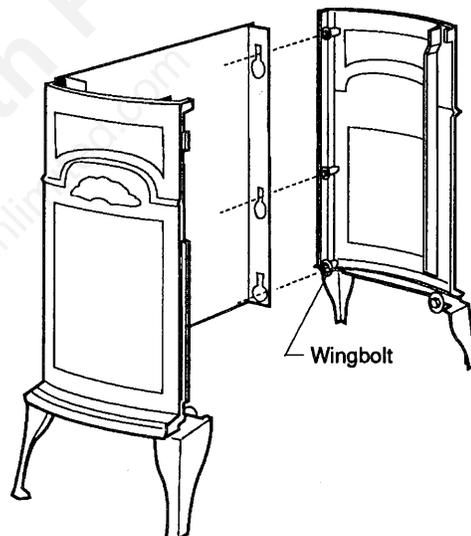
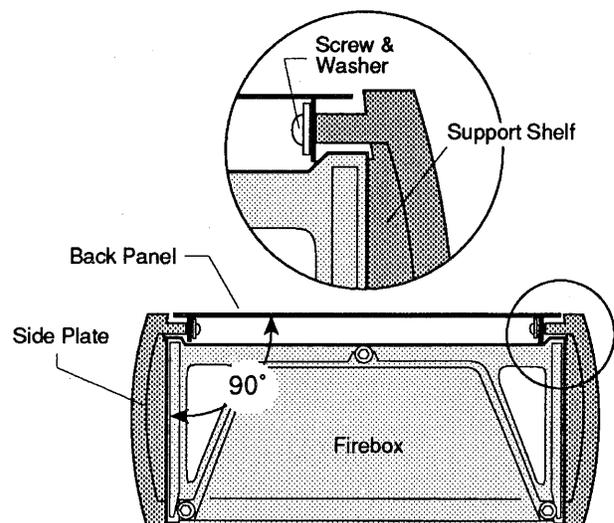
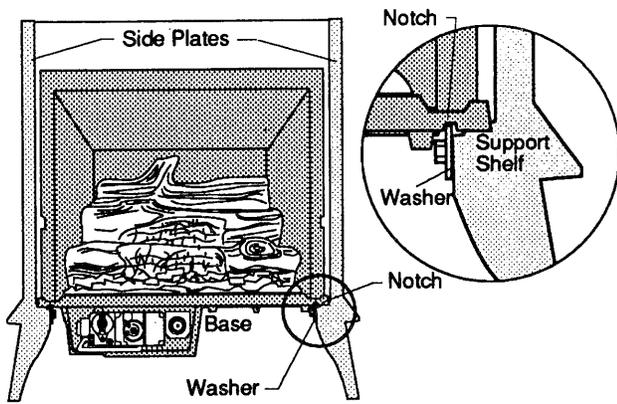

Figure 4. Secure the Right Side to the Back Panel.
Figure 5. The sides must be at right angles to the Back Panel in order for the firebox to fit properly.
Figure 6. Install the Firebox Assembly. Be sure that the two large front washers engage both notches in the underside of the base.
Step 2. Attach the Right Side Plate to the Back Panel in a similar manner. Tighten the lower wingbolt. Fig. 4. Move this assembly into the final position and align the two side plates perpendicular to the Back Panel as in Fig. 5.
Lift the VF25 firebox assembly as a unit and slide it back to position it within the shell. The base of the firebox should rest on the side support shelves as in Figs. 5 and 6. The large washer at the forward leg of each Side Plate, should engage the corresponding notch in the underside of the firebox base as shown in Fig. 6. Properly positioned, the firebox will be level and locked in place. If not, adjust the levelling screws as required to keep the entire assembly level.